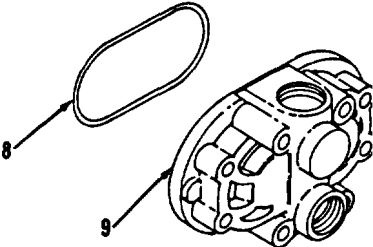

Figure 10-15.
- 6. Remove and discard preformed packing (8) from back plate (9, Figure 10-15).